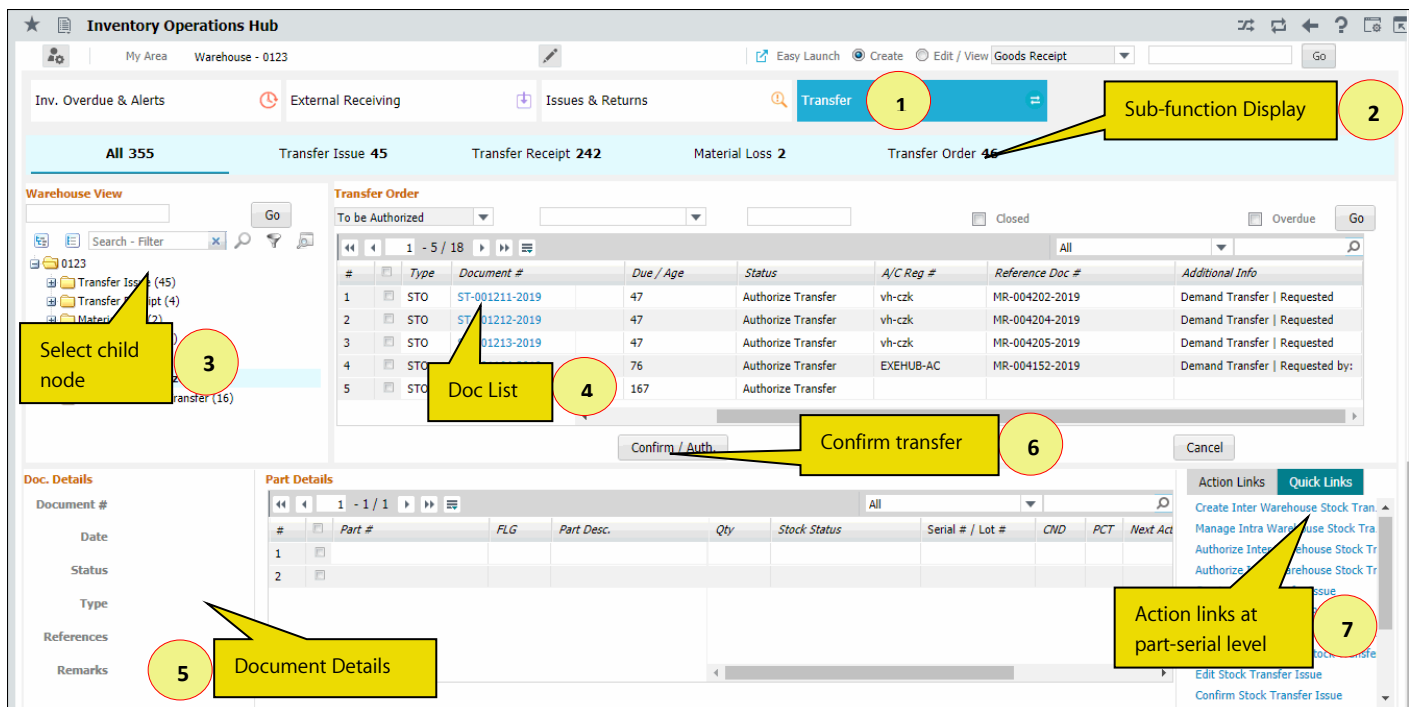

Figure 2.10 Transferring materials to other locations
1. Select the **Transfer** Function in the **Inventory Operations Hub**. See Figure 2.10.